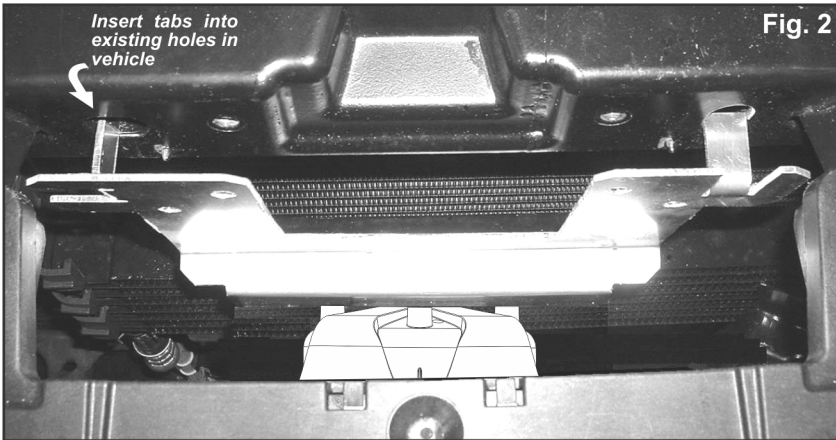

Fig. 2
3. Insert the 2 tabs protruding from the back of the mounting bracket into the corresponding holes in the vehicle as shown (Fig. 2).